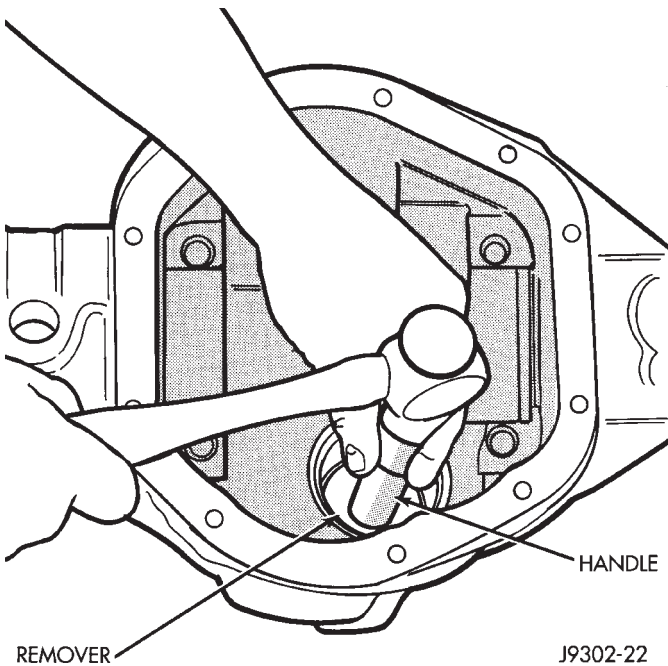

Fig. 30 Front Bearing Cup Removal
(7) Remove the front pinion bearing cup, bearing, oil slinger, if equipped, and pinion seal with Remover D-147 and Handle C-4171 (Fig. 30).